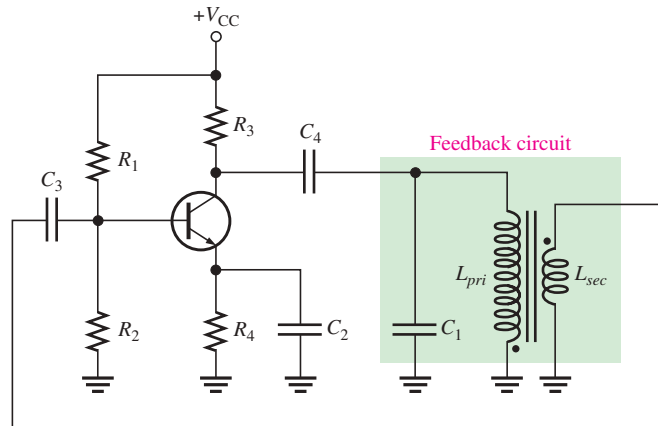

FIGURE 16–24
One basic type of resonant circuit feedback oscillator is the Colpitts, named after its inventor—as are most of the others we cover here. As shown in Figure 16–16, this type of oscillator uses an LC circuit in the feedback loop to provide the necessary phase shift and to act as a resonant filter that passes only the desired frequency of oscillation.
► **FIGURE 16–16**
Figure 16–17 shows that the circulating tank current is through both C_1 and C_2 (they are effectively in series). The voltage developed across C_2 is the oscillator's output voltage (V_{out}) and the voltage developed across C_1 is the feedback voltage (V_f), as indicated. The expression for the attenuation (B) is
A FET can be used in place of a BJT, as shown in Figure 16–19, to minimize the loading effect of the transistor's input impedance. Recall that FETs have much higher input impedances than do bipolar junction transistors. Also, when an external load is connected to the oscillator output, as shown in Figure 16–20(a), f_r may decrease, again because of a reduction in Q . This happens if the load resistance is too small. In some cases, one way to eliminate the effects of a load resistance is by transformer coupling, as indicated in Figure 16–20(b).
▲ FIGURE 16–19
▲ FIGURE 16–20
- (a) Determine the frequency for the oscillator in Figure 16–21. Assume there is negligible loading on the feedback circuit and that its Q is greater than 10.
► FIGURE 16–21
Related Problem What frequency does the oscillator in Figure 16–21 produce if it is loaded to a point where $Q = 4$?
The Clapp oscillator is a variation of the Colpitts. The basic difference is an additional capacitor, C_3 , in series with the inductor in the resonant feedback circuit, as shown in Figure 16–22. Since C_3 is in series with C_1 and C_2 around the tank circuit, the total capacitance is
► FIGURE 16–22
The Hartley oscillator is similar to the Colpitts except that the feedback circuit consists of two series inductors and a parallel capacitor as shown in Figure 16–23.
► FIGURE 16–23
This type of LC feedback oscillator uses transformer coupling to feed back a portion of the signal voltage, as shown in Figure 16–24. It is sometimes called a “tickler” oscillator in reference to the transformer secondary or “tickler coil” that provides the feedback to keep the oscillation going. The Armstrong is less common than the Colpitts, Clapp, and Hartley, mainly because of the disadvantage of transformer size and cost. The frequency of oscillation is set by the inductance of the primary winding (L_{pri}) in parallel with C_1 .
Crystals used in electronic applications typically consist of a quartz wafer mounted between two electrodes and enclosed in a protective “can” as shown in Figure 16–25(a) and (b). A schematic symbol for a crystal is shown in Figure 16–25(c), and an equivalent RLC circuit for the crystal appears in Figure 16–25(d). As you can see, the crystal’s equivalent circuit is a series-parallel RLC circuit and can operate in either series resonance or parallel resonance. At the series resonant frequency, the inductive reactance is cancelled by the reactance of C_s . The remaining series resistor, R_s , determines the impedance of the crystal. Parallel resonance occurs when the inductive reactance and the reactance of the parallel capacitance, C_p , are equal. The parallel resonant frequency is usually at least 1 kHz higher
► FIGURE 16–25
An oscillator that uses a crystal as a series resonant tank circuit is shown in Figure 16–26(a). The impedance of the crystal is minimum at the series resonant frequency, thus providing maximum feedback. The crystal tuning capacitor, C_C , is used to “fine tune” the oscillator frequency by “pulling” the resonant frequency of the crystal slightly up or down.
► FIGURE 16–26
A modified Colpitts configuration is shown in Figure 16–26(b) with a crystal acting as a parallel resonant tank circuit. The impedance of the crystal is maximum at parallel resonance, thus developing the maximum voltage across the capacitors. The voltage across C_1 is fed back to the input.
The op-amp integrator covered in Chapter 13 can be used as the basis for a triangular-wave oscillator. The basic idea is illustrated in Figure 16–27(a) where a dual-polarity, switched input is used. We use the switch only to introduce the concept; it is not a practical way to implement this circuit. When the switch is in position 1, the negative voltage is applied, and the output is a positive-going ramp. When the switch is thrown into position 2, a negative-going ramp is produced. If the switch is thrown back and forth at fixed intervals, the output is a triangular wave consisting of alternating positive-going and negative-going ramps, as shown in Figure 16–27(b).
▲ FIGURE 16–27
A Practical Triangular-Wave Oscillator One practical implementation of a triangular-wave oscillator utilizes an op-amp comparator with hysteresis to perform the switching function, as shown in Figure 16–28. The operation is as follows. To begin, assume that the output voltage of the comparator is at its maximum negative level. This output is connected to the inverting input of the integrator through R_1 , producing a positive-going ramp on the output of the integrator. When the ramp voltage reaches the upper trigger point (UTP), the comparator switches to its maximum positive level. This positive level causes the integrator ramp to change to a negative-going direction. The ramp continues in this direction until the lower trigger point (LTP) of the comparator is reached. At this point, the comparator output switches back to the maximum negative level and the cycle repeats. This action is illustrated in Figure 16–29.
► FIGURE 16–28
► FIGURE 16–29
Waveforms for the circuit in Figure 16–28.
Since the comparator produces a square-wave output, the circuit in Figure 16–28 can be used as both a triangular-wave oscillator and a square-wave oscillator. Devices of this type are commonly known as **function generators** because they produce more than one output function. The output amplitude of the square wave is set by the output swing of the comparator, and the resistors R_2 and R_3 set the amplitude of the triangular output by establishing the UTP and LTP voltages according to the following formulas:
Determine the frequency of oscillation of the circuit in Figure 16–30. To what value must R_1 be changed to make the frequency 5.0 kHz?
▶ **FIGURE 16–30****Solution**
Related Problem What is the amplitude of the triangular wave in Figure 16–30 if the comparator output is $\pm 10 \text{ V}$?
The **voltage-controlled oscillator (VCO)** is a relaxation oscillator whose frequency can be changed by a variable dc control voltage. VCOs can be either sinusoidal or nonsinusoidal. One way to build a sawtooth VCO is with an op-amp integrator that uses a switching device (PUT) in parallel with the feedback capacitor to terminate each ramp at a prescribed level and effectively “reset” the circuit. Figure 16–31(a) shows the implementation.